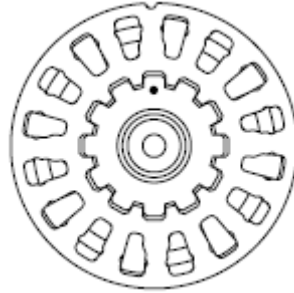

Figure 5: Notch aligned with the timing mark on the driver
4. Install the commutator (13) into the end cover (16) with the I.D. splines facing up and replace the last seal (4) on the end cover subassembly.
The commutator must be timed correctly. There is one notch on the O.D. of the commutator (13). This notch must be aligned with the timing mark on the driver (12). See *Figure 5* on page 8 for timing the commutator correctly.